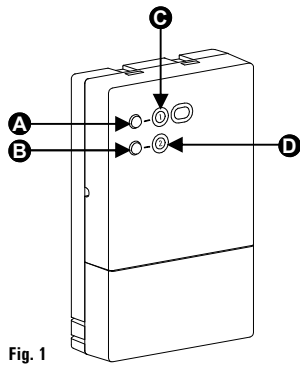

Fig. 1
LEDs (C and D Fig. 1)
SELF-LEARNING BUTTONS (A and B Fig. 1)
The device is equipped with two self-learning buttons for setting up the wireless link between the thermostat (or programmable thermostat) and the receiver, one button for channel 1 (A Fig. 1) and one button for channel 2 (B Fig. 1).
- Press the self-learning button of the desired channel for a second (A Fig. 1 for channel 1 and B Fig. 1 for channel 2). The self-learning procedure starts: the relevant channel's LED will blink quickly yellow.
- Press and hold the button of the desired channel (A or B Figure 1).
- Press and hold both buttons **A** and **B** Fig.1